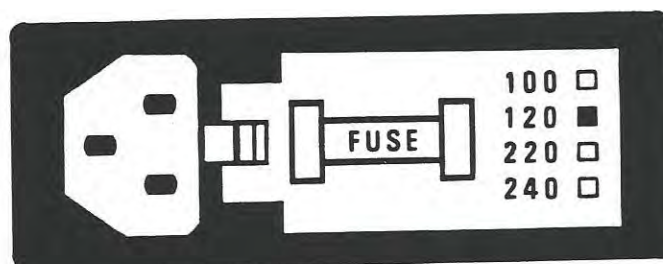

FIGURE 2-3 LINE VOLTAGE SELECTION
2.5 The PMC-450 is equipped with a power line module on the back panel with an integral line voltage PCB selector so that the unit can be operated in areas having various line voltage availabilities. The unit is shipped to USA destinations set-up for a line voltage of 115/120 VAC, using a 1/4 ampere, slow-blow type fuse. To set-up the unit for a different line voltage see Figure 2.3 and follow the procedure below.